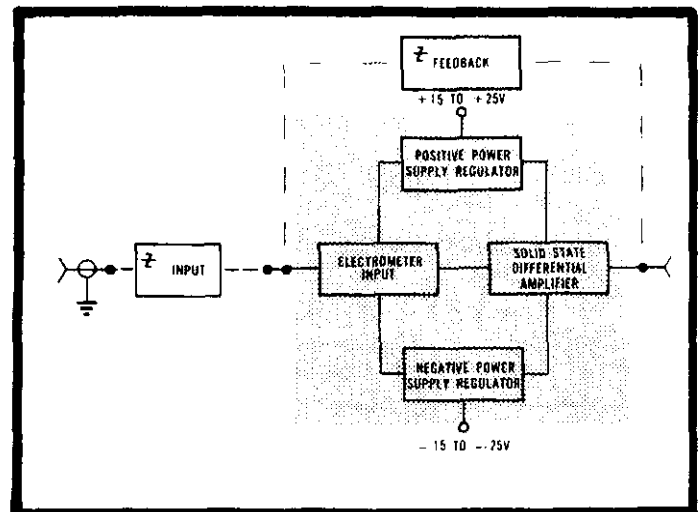

FIGURE 20. Model 300 Block Diagram. The circuit for the Model 300 is within the shaded portion.
e. External fine and internal coarse zero control connections (Figure 20).